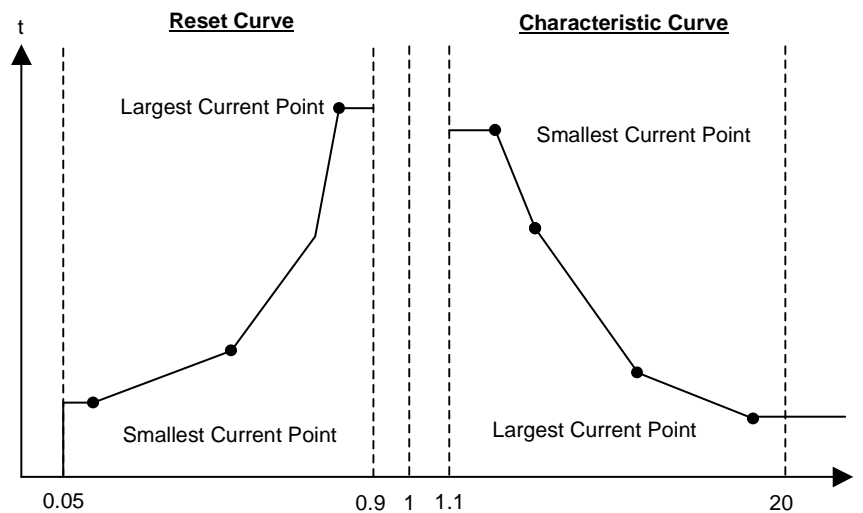

Figure 6-29 Use of a User-Specified Curve
- Current flows which are less than the smallest current value entered will not lead to a reduction of the reset time below the time associated with the smallest current value entered. The reset curve (see Figure 6-29 right) represents constant reset time for currents smaller than the smallest current value entered.
- Current flows which are greater than the largest current value entered will not lead to an extension of the reset time beyond the time associated with the largest current value entered. The reset curve (see Figure 6-29 right) represents constant reset time for currents larger than the largest current value entered.
- Current flows which are greater than the largest current value entered will not lead to an extension of the reset time beyond the time associated with the largest current value entered. The reset curve (see Figure 6-29) represents constant reset time for currents larger than the largest current value entered.
- Current flows which are less than the smallest current value entered will not lead to a reduction of the reset time below the time associated with the smallest current value entered. The reset curve (see Figure 6-29) represents constant reset time for currents smaller than the smallest current value entered.